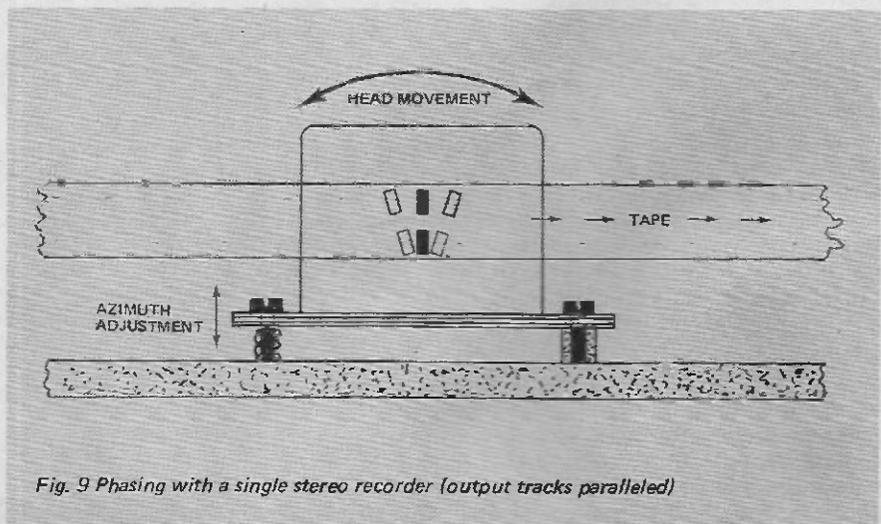

Fig. 9 Phasing with a single stereo recorder (output tracks paralleled)
- (b) Using a single stereo recorder (Fig. 9) the signal is recorded simultaneously on both tracks. On replay the head is moved in a direction parallel with that of the tape movement, using the azimuth adjustment screw, and the two output channels are combined.